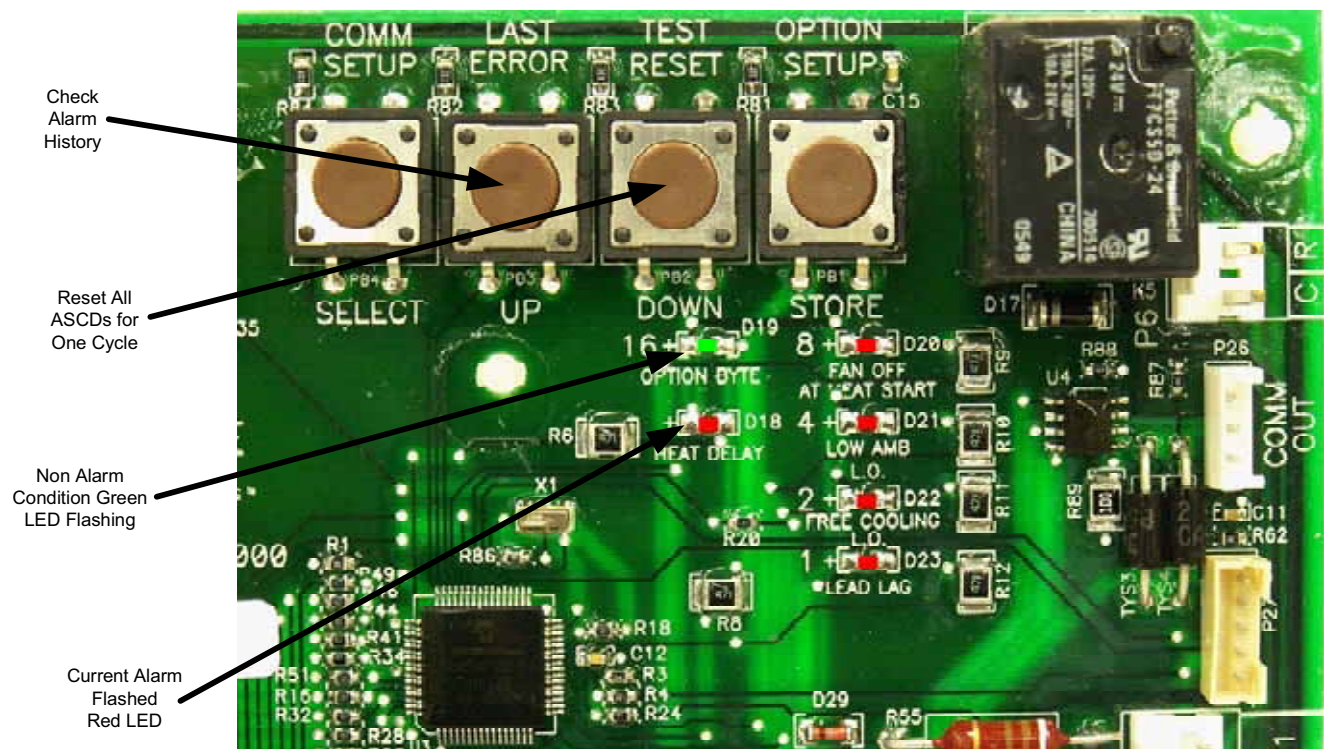

FIGURE 24 - UNIT CONTROL BOARD
Alarm condition codes are flashed on the UCB lower left Red LED, See Figure 24. While the alarm code is being flashed, it will also be shown by the other LEDs: lit continuously while the alarm is being flashed. The total of the continuously lit LEDs equates to the number of flashes, and is shown in the table. Pressing and releasing the LAST ERROR button on the UCB can check the alarm history. The UCB will cycle through the last five (5) alarms, most recent to oldest, separating each alarm flash code by approximately 2 seconds. In all cases, a flashing Green LED will be used to indicate non-alarm condition.